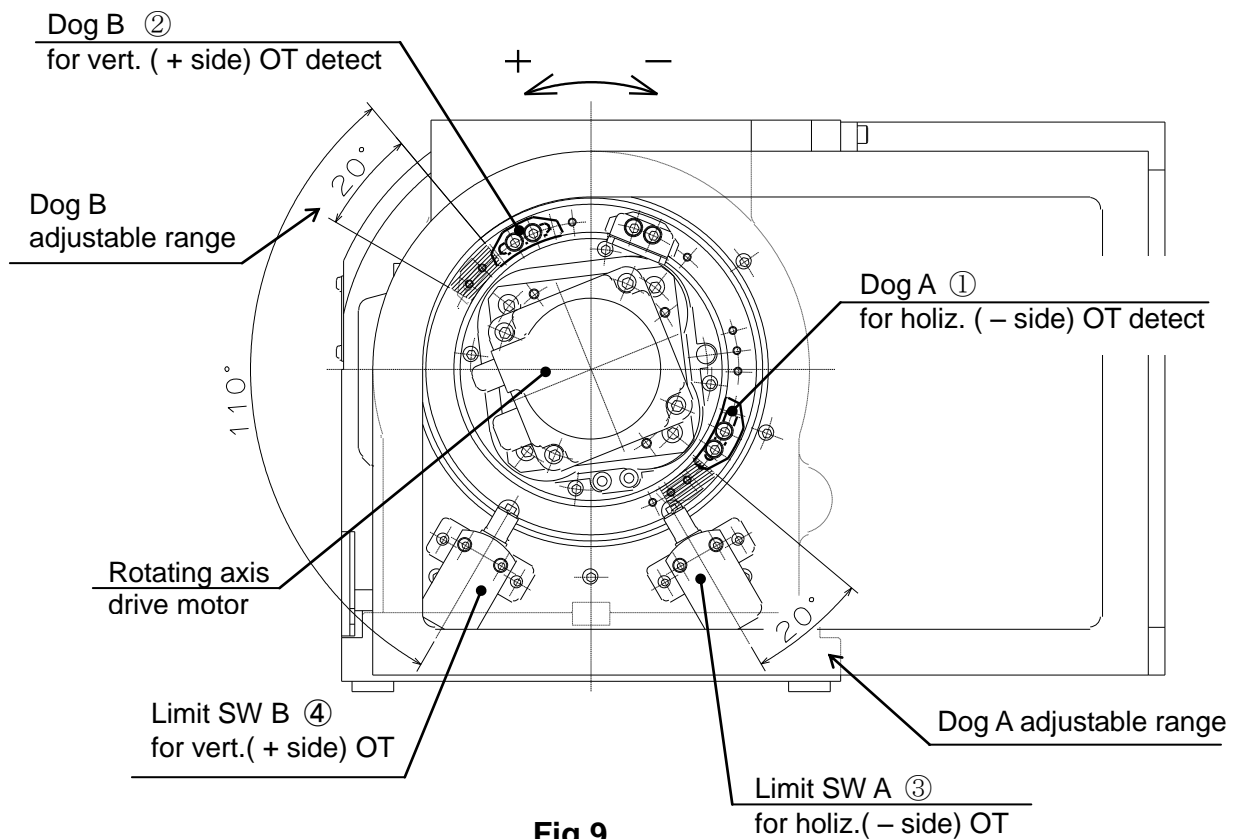

Fig.9
14-1. Tilting axis over travel stop device (See Fig.9)
- 1) When the customer will change position of dog A ① according to the shape of workpiece and jig, loosen hexagon socket head cap screw which fix the dog A ①. Once remove the dog A ①. (See Fig.9.)
- 3) After rotating the rotary table to the desired tilting angle, slightly tighten hexagon socket head cap screws which fix the dog A ①.
- 4) Slide the dog A ① in the reverse direction clockwise (CW) before fixing until the over-travel alarm lamp lights. Tighten hexagon socket head cap screw that loosened slightly.
- 5) After fixing the dog A ①, rotate the tilting axis again with the manual pulse generator or the Manual axis feed key and check that the tilting axis stops at the desired tilting angle position and alarm lamp lights.
- 1) When the customer will change position of dog B ② according to the shape of workpiece and jig, loosen hexagon socket head cap screw which fix the dog B ②. Once remove the dog B ②. (See Fig.9.)
- 3) After rotating the rotary table to the desired tilting angle, slightly tighten hexagon socket head cap screws which fix the dog B ②.
- 4) Slide the dog B ② in the reverse direction counterclockwise (CCW) before fixing until the over-travel alarm lamp lights. Tighten hexagon socket head cap screw that loosened slightly.
- 5) After fixing the dog B ②, rotate the tilting axis again with the manual pulse generator or the Manual axis feed key and check that the tilting axis stops at the desired tilting angle position and alarm lamp lights.